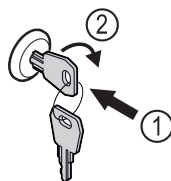

Fig. 171
- Insert the key. Fig. 171 (1)
- Turn the key clockwise by 90°. Fig. 171 (2)